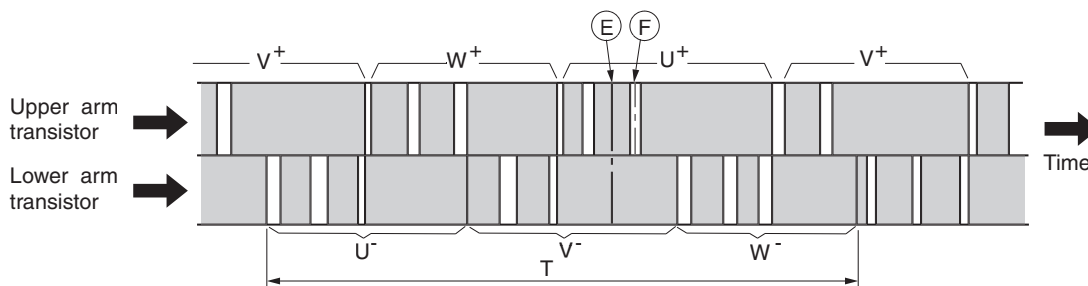

Fig. 3-2 Switching order of power module
The switching order is as shown in Fig. 3-2.
Time T in Fig. 3-2 shows the switching period, and relation with rotation speed (N) of the compressor is shown by formula below;